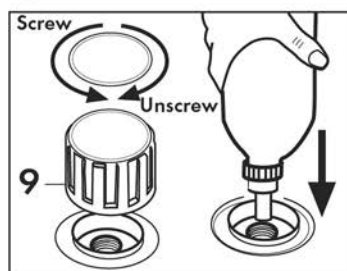

Fig. 3
Open the boiler fill cap (9) by hand: press and simultaneously rotate the cap anticlockwise. Place the bottle upside down on the boiler opening, and pour water into the boiler; to do this, you need to deactivate the safety device by pressing the bottle cap against the boiler fill hole. When the boiler is full of water, tighten the boiler cap (9) by rotating it clockwise and ensure it is well tight **(Fig. 3)**